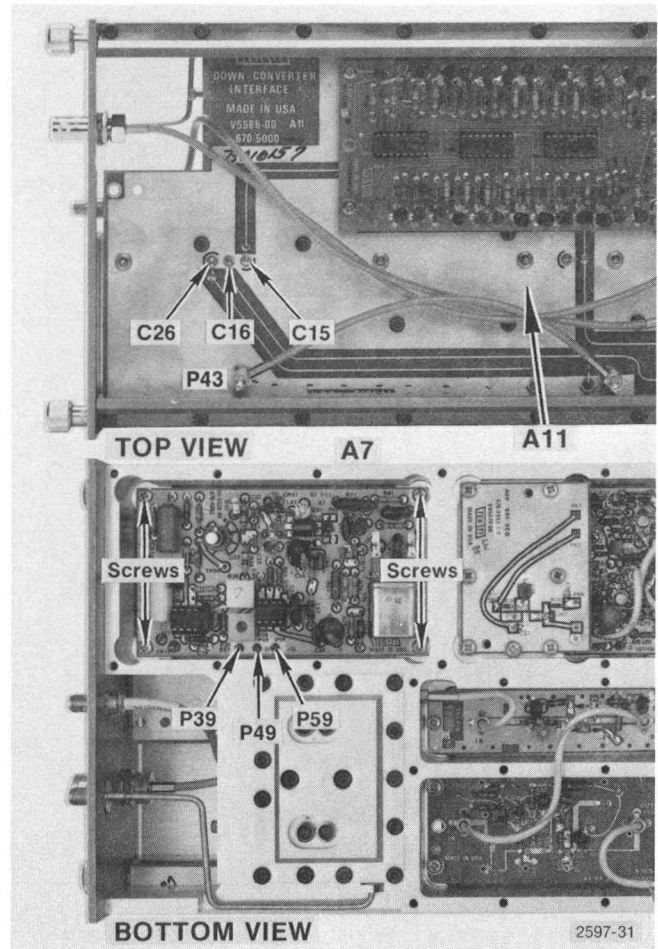

Fig. 5-6. Removing the RF PLL board, A7.
Removing the RF PLL Board (A7) (see Fig. 5-6).
2. Disconnect the coaxial cable from the position shown in Fig. 5-6.